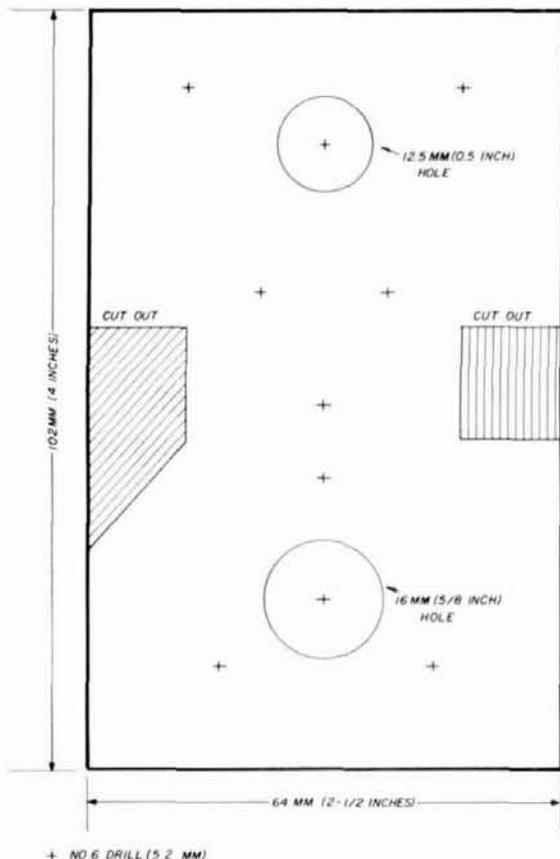

fig. 3. Switch-plate drilling template. Punch or drill through the drawing into the blank switch plate.
1	switch mounting plate (refer to fig. 3 and text)
6. Use **fig. 3** as a template. Cut a 6.35 by 10.16 cm (2.5 by 4 inch) switch mounting plate from 0.17-cm (0.065-inch) aluminum sheet. Use a sharp center-punch and mark the centers for all holes, right through the template. All screw holes are for 6-32 (M3.5) screws. (I drilled mine for 8-32 [M8] to allow for minor errors.) The ML7464910-G1/407 switch has a 1.27-cm (1/2-inch) shaft bushing. Centralab Ham Switch 2551 has a 0.95-cm (3/8-inch) bushing. The 2551 has six positions. The rear shaft bushing nut on C1 requires a 1.59-cm (5/8-inch) hole for clearance.